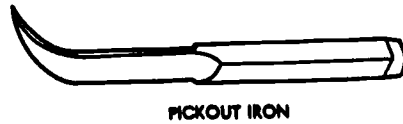

Fig 1-78. Pickout iron.
- **Pickout iron.** The pickout iron (fig 1-78) is used to remove lead and oakum from a made-up joint, if necessary.